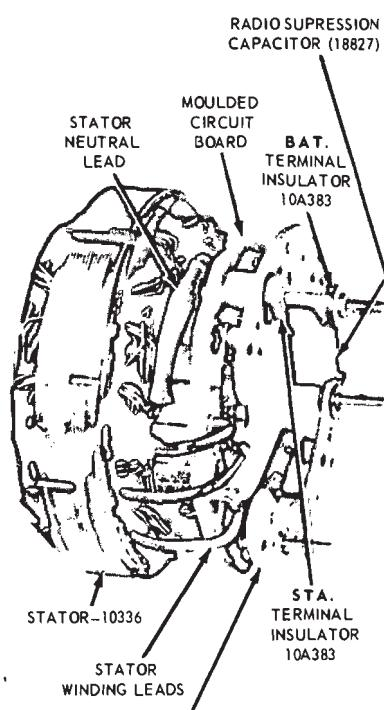
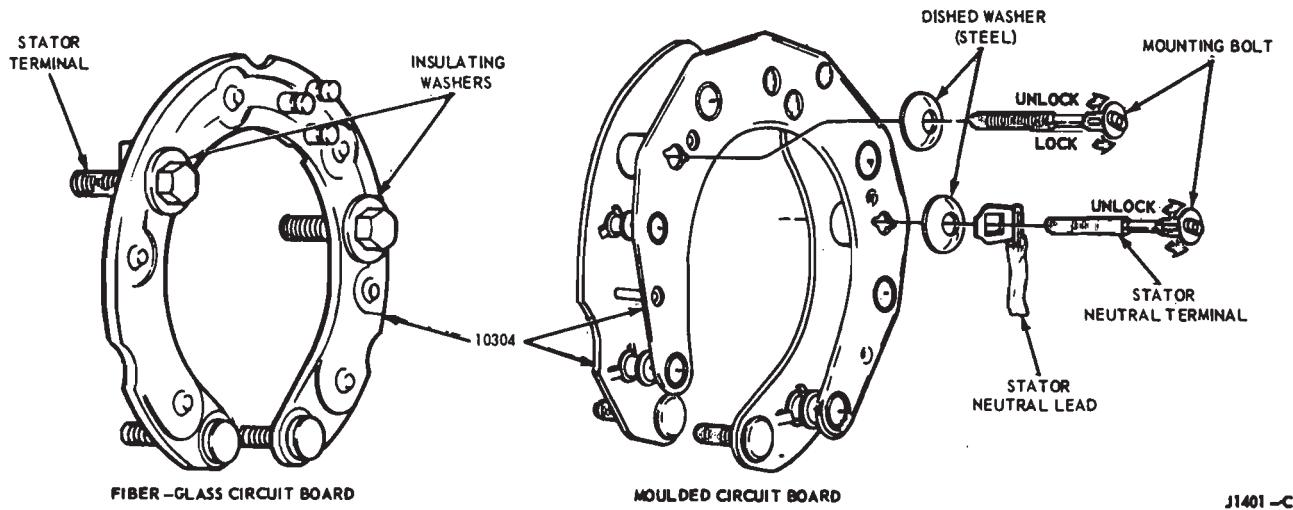
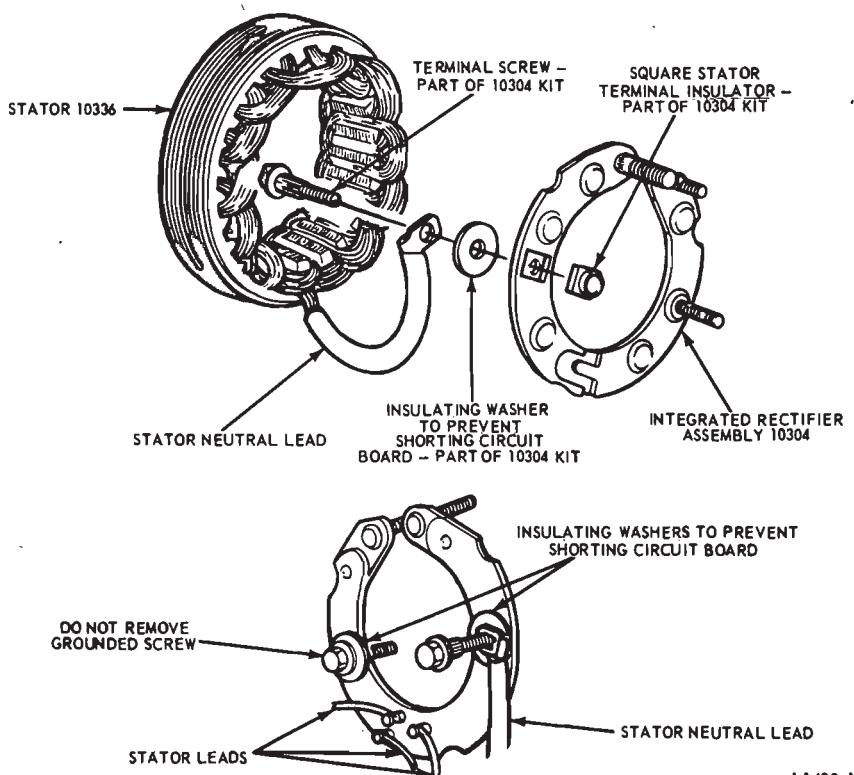
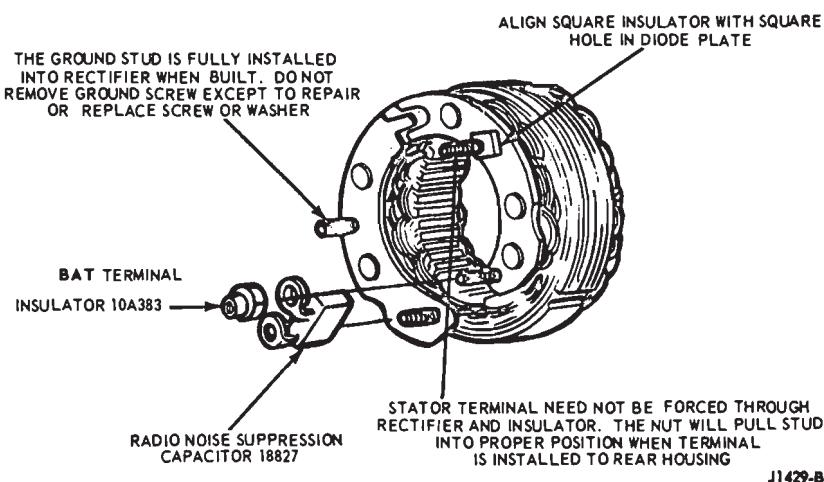

FIG. 21—Stator Lead Connections—Except With Integral Regulator
FIG. 23—Rectifier Assembly
FIG. 24—Stator Terminal Installation—Fiber—Glass Circuit Board
FIG. 25—Terminal Insulators—Fiber-Glass Circuit Board
If the alternator rectifier has a molded circuit board, remove the screws from the rectifier by rotating the bolt heads $1/4$ turn clockwise to unlock them and then remove the screws (Fig. 23). Push the screws out, on a rectifier with a fiber circuit board (Fig. 23). Avoid turning the screw while removing to make certain that the straight knurl will engage the insulators when installing. Do not remove the grounded screw (Fig. 24).
8. Wrap the three stator winding leads around the circuit board terminals and solder them. Use a 100-watt soldering iron and rosin-core solder. Position the stator neutral lead eyelet on the stator terminal screw and install the screw in the rectifier assembly (Fig. 21 or 22).
through the wire lug, dished washers and circuit board (Fig. 23). Turn them 1/4 turn counterclockwise to lock them. For fiber circuit boards, insert the screws straight through into the holes (Fig. 24).
The dished washers are to be used on the molded circuit board only. If they are used on the fiber circuit boards, a short circuit will occur. A flat insulating washer is to be used between the stator terminal and the board, when a fiber circuit board is used (Fig. 24).
10. Position the radio noise suppression capacitor on the rectifier terminals. On the molded circuit board install the STA and BAT terminal insulators (Fig. 21 or 22). On the fiber circuit board position the square stator-terminal insulator in the square hole in the rectifier assembly (Fig. 24). Position the BAT terminal insulator (Fig. 25).